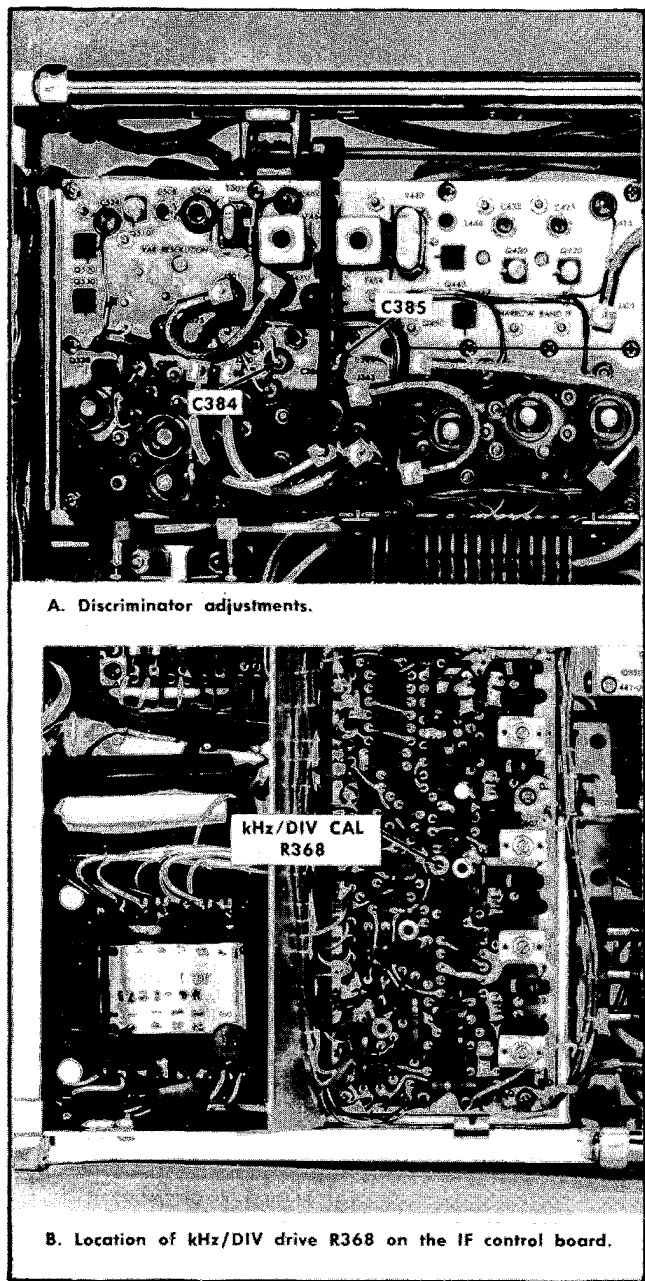

Fig. 6-30. Adjustments for the kHz/DIV discriminator.
b. Apply 10 ns and 1  $\mu$ s markers from the Time-Mark Generator through the 20 dB attenuator to the band A RF INPUT. Set the DISPERSION to 500 kHz/div. Preset the DISPERSION BAL R234, to its midrange position and the kHz/div Cal R368 (Fig. 6-30) approximately 90° counterclockwise from its fully clockwise position.